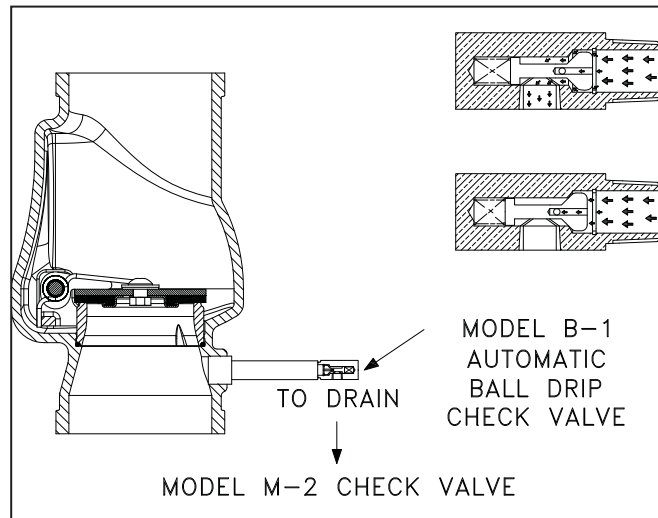

Figure 34
9. If a fire department connection is used, make sure the automatic drip valve is free, allowing accumulated water to escape (Figure 34).